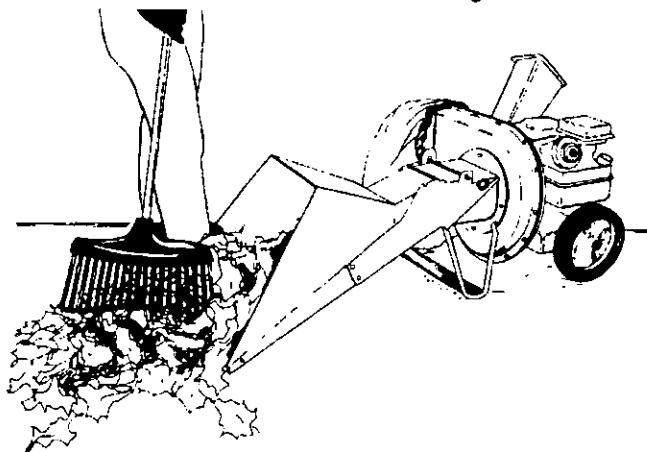
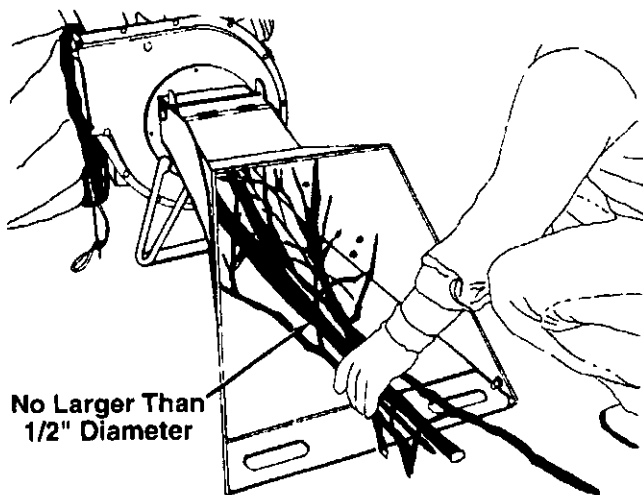

FIGURE 11.
FIGURE 12.
- Leaves and small twigs can be raked into the hopper assembly when the hopper assembly is lowered to the ground. See figure 11. Small branches **up to 1/2" diameter** can also be fed into the hopper assembly in this position. See figure 12.